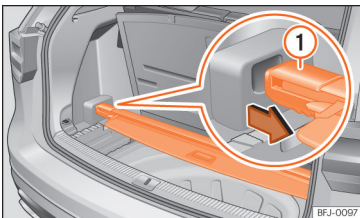

Fig. 195 Under the boot floor: store the rear shelf.
- Place the rear shelf in the corresponding housing >>> Fig. 195.